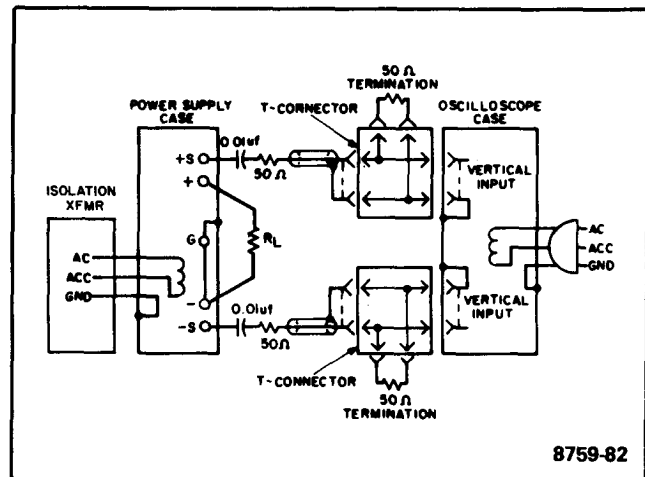

Figure 5-3. Noise Spike Measurement Test Setup
1. As shown in Figure 5-3, two coax cables must be substituted for the shielded two-wire cable.
5-26 The circuit of Figure 5-3 can also be used for the normal measurement of low frequency ripple. Simply remove the four terminating resistors and the blocking capacitors and substitute a higher gain vertical plug-in for the wide-band plug in required for spike measurements. Notice that with these changes, Figure 5-3 becomes a two-cable version of Figure 5-2B.